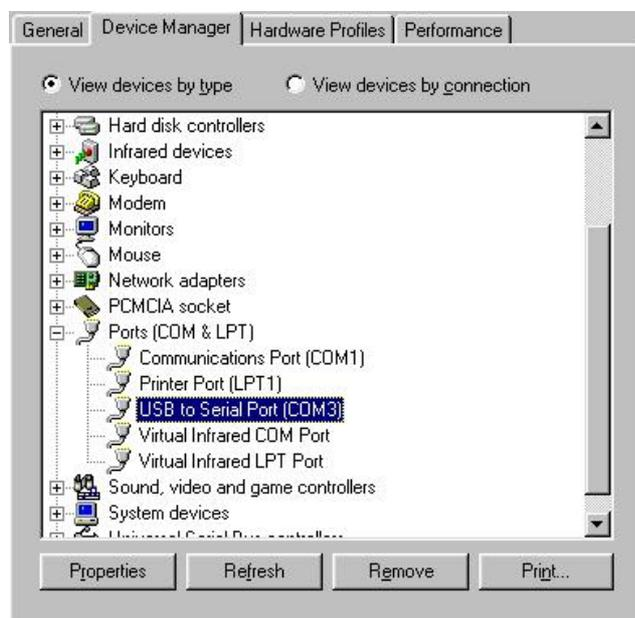

Fig. 8
2. Double click and run the installation file “**PL-2303 Driver Installer**” to install the USB driver. After installation, restart your computer, and you will find a “USB to Serial Port” driver in the Device Manager list, as shown in Fig. 8.
4. Connect the SynScan™ GPS mouse to the USB to MINI-DIN(F) cable and insert the USB connector into a USB port on your PC.
5. Double click to open “PGViewer.exe” , and set the communication port to match the port where the “USB to Serial Port” driver is installed in the Device Manager list. In the example shown in Fig. 8, this would be COM5.